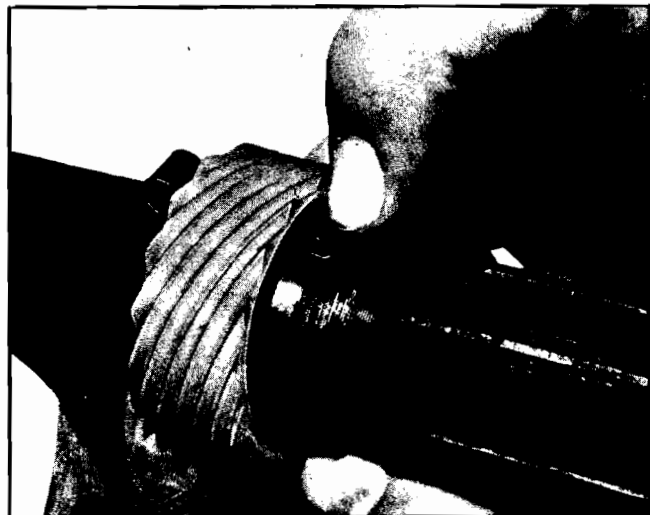

Fig. 7F-113 Installing Speedometer Drive Gear
1. Place retainer into hole in output shaft (Fig. 7F 112).
- Align slot in speedometer drive gear with retainer clip and slide gear into place (Fig. 7F-113).